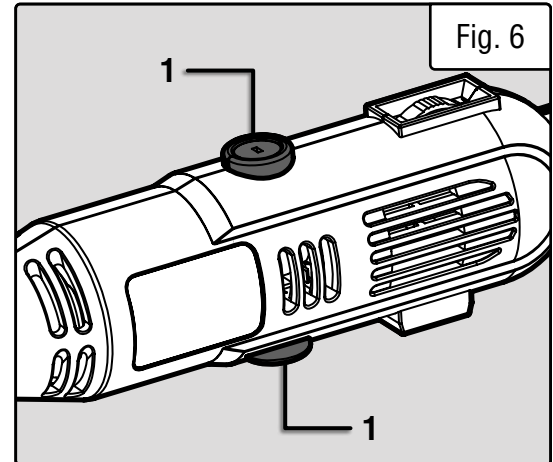

Fig. 6
2. The carbon brush caps are located on the top and bottom of the rotary tool (Fig. 6 - 1). To access the brushes, unscrew and remove the two brush caps using the end of the wrench included with your tool kit.